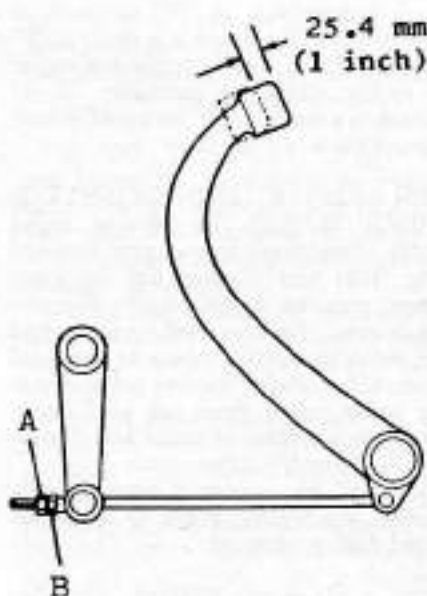

Fig. 128 - Turn jam nuts "A" and "B" until 25.4 mm (one inch) free play is measured in clutch pedal as shown.
235. Check amount of free travel in clutch pedal (Fig. 128) and loosen jam nuts (A) and (B) until 25.4 mm (one inch) free travel is in clutch pedal. Tighten jam nuts at this position.